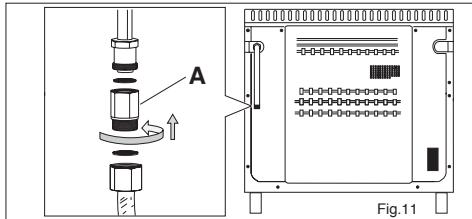

Fig.11
2) by flexible tube in stainless steel with continuing wall, with mechanical connection in accordance with rules (see fig. 11).
**WARNING:** connect the gas to the oven's gas supply line using the supplied connector (A) (see figure 11)